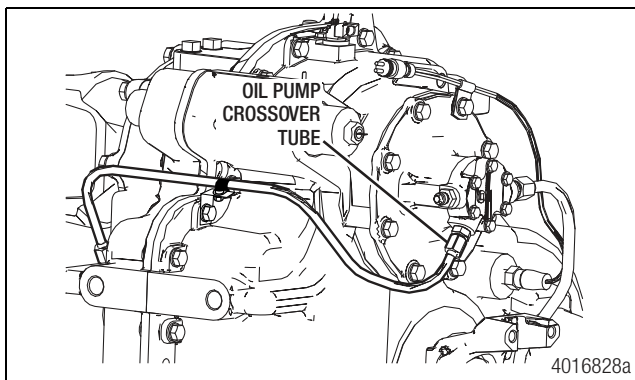

Figure 9.6
4. Connect the oil pump crossover tube from the front case to the pump outlet fitting on the rear case half. Tighten the tube nut to 20 lb-ft (27 Nm). Figure 9.6.